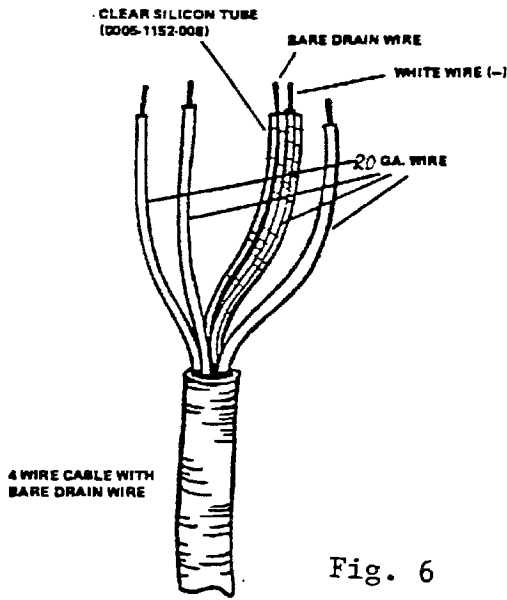

Fig. 6
- * Fit a silicon tube over the bare copper wire and white cable (see fig. 6) and connect to the (-) terminal.